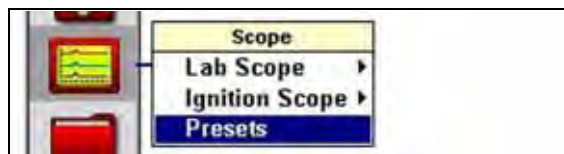

Figure 7-15 Scope menu
1. From the main menu, select **Scope > Presets** (Figure 7-15).